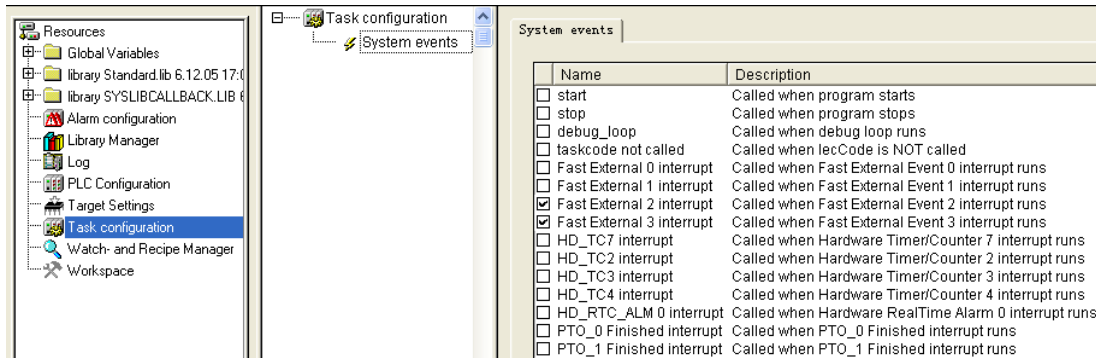

Figure B-4-2
(3) Because fast external interrupt 3 (I0.6) and fast external interrupt 2 (I0.7) are used, “v” shall be filled in the cursor position in figure B-4-2.